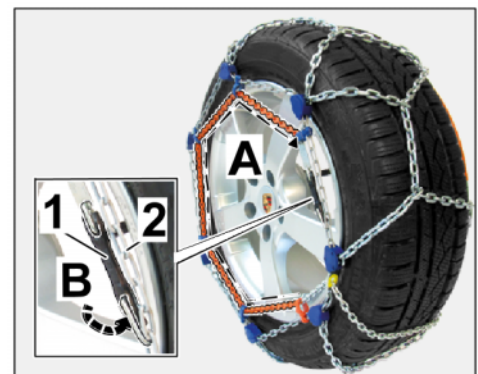

Figure 13
- 2.3.3 Feed the rest of the tensioning chain in a circle (⇒ *Figure 13 -A-*) over the complete wheel through the remaining steel eyelets.
2.3.5 Engage hook of the bungee cord slightly tensioned into a chain link on the outer chain (⇒ *Figure 13 -B-* or ⇒ *Figure 14 -B-*).